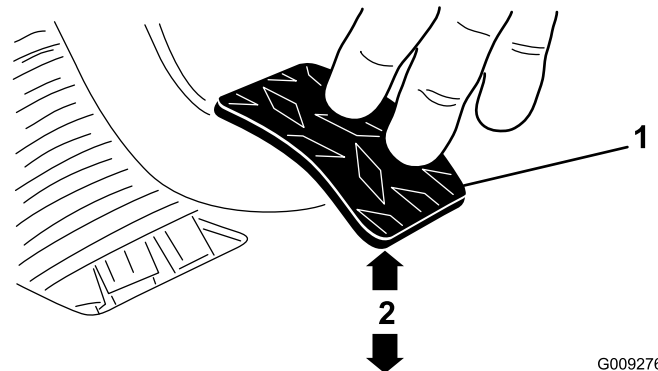

Figure 62
3. Adjust the jam nuts or ball joint until the back, rear edge of the clutch pedal is 9.5 ± 0.3 cm (3.75 ± 0.12 inch) from the top of the floor plate diamond pattern, when an 18 N (4 lb) force is applied to the pedal (Figure 62).